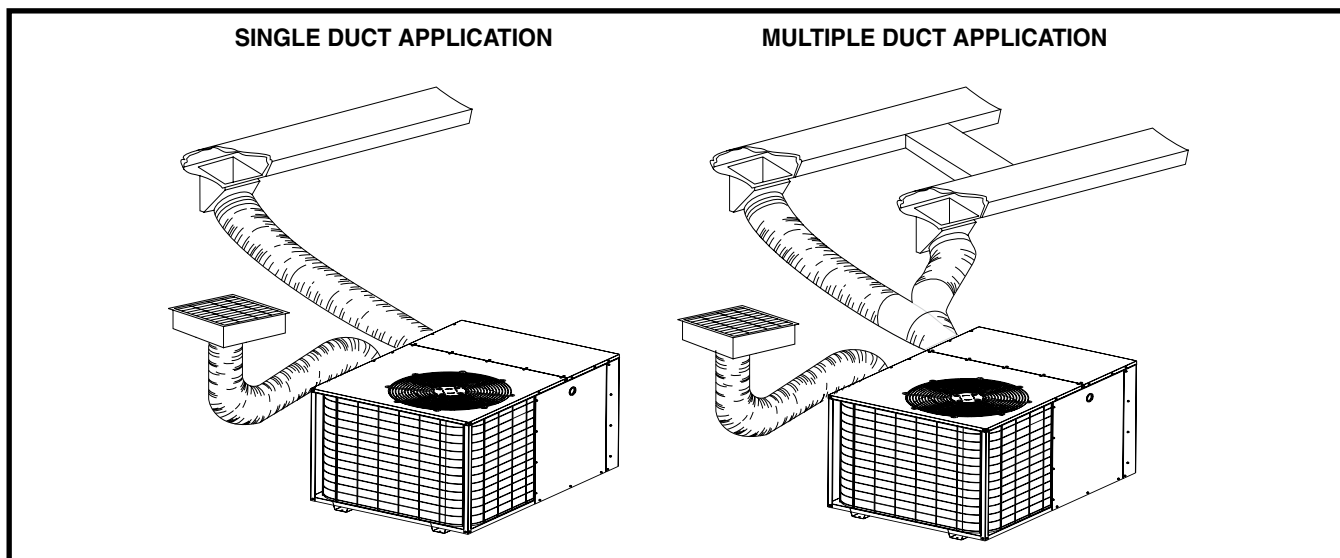

Figure 2. Typical Duct Applications
- The supply duct system, including the number and type of registers, will have much more effect on the performance of the system than any other factor. The duct must be sufficiently large to conduct an adequate amount of air to each register. See Figure 2.